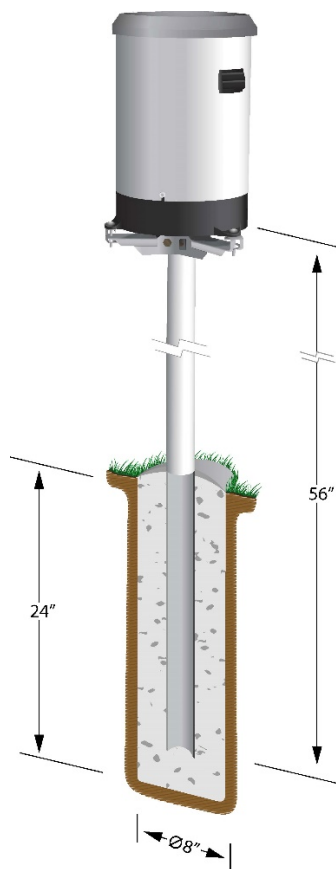

FIGURE 8-21. TB4 or TB4MM Mounted onto a CM310 Pole via the CM240 Mount
1. Mount the rain gage to either the CM240 (FIGURE 8-21) or a user supplied bracket. Remove the rain gage funnel from the base by removing the three screws and lifting upward. Adjust the three nuts on the CM240 bracket to level the rain gage. On user supplied brackets, shims or washers can be used to level the rain gage. A bubble level is mounted on the TB4, TB4MM, or CS700 base to facilitate leveling.